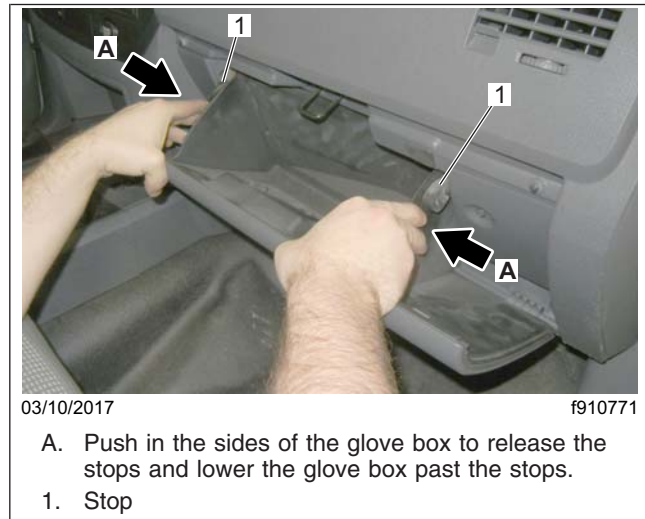

Fig. 2, Removing the Glove Box
- 5.2 Push in the sides of the glove box to release the stops and lower the glove box past the stops. See Fig. 2
- 23.2 Push in the sides of the glove box and raise it past the stops. See Fig. 2.